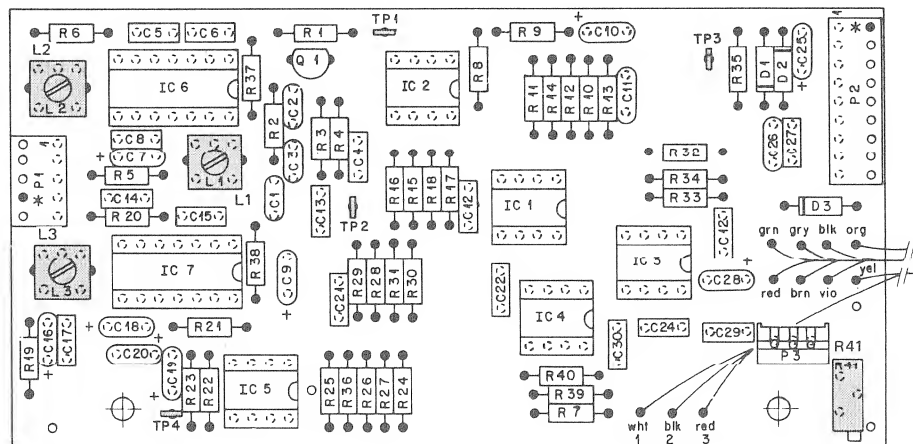

Fig. 3.1.10
- Set oscillator frequency with LI to $5.5 \text{ MHz} \pm 500 \text{ kHz}$ (Fig. 3.1.10).